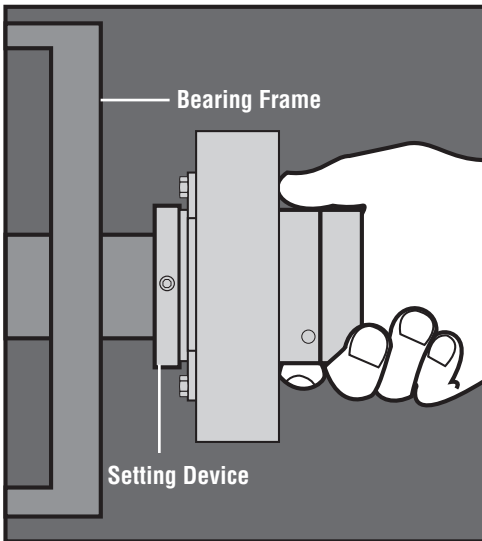

Figure 7
2.3 **Install the complete 84/85 cartridge assembly onto the shaft or sleeve with the setting devices near the bearing housing.** See Figure 7.